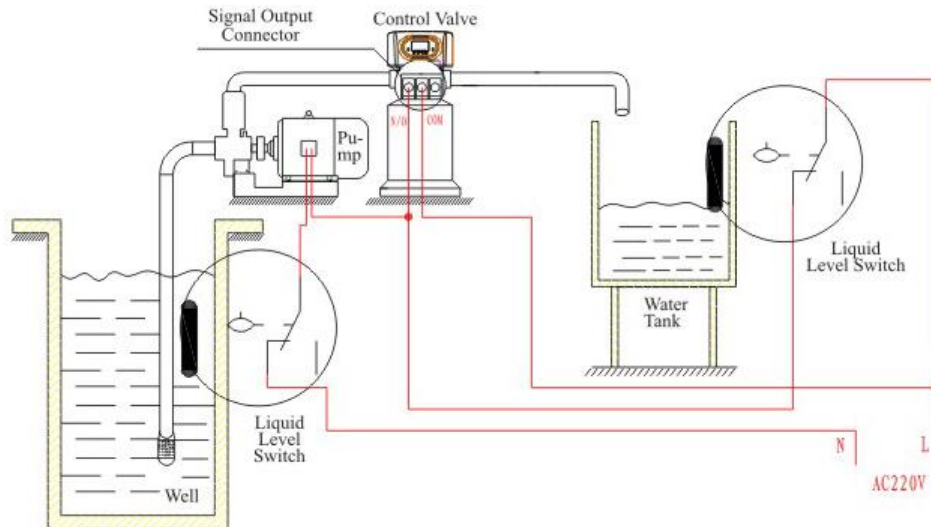

Figure 3-4 Wiring of Liquid Level Controller on the Inlet
- * **Function:** For a well system and holding tank, the RevV4 can act as a relay for the booster pump. Refer to Figure 3-4 for wiring.